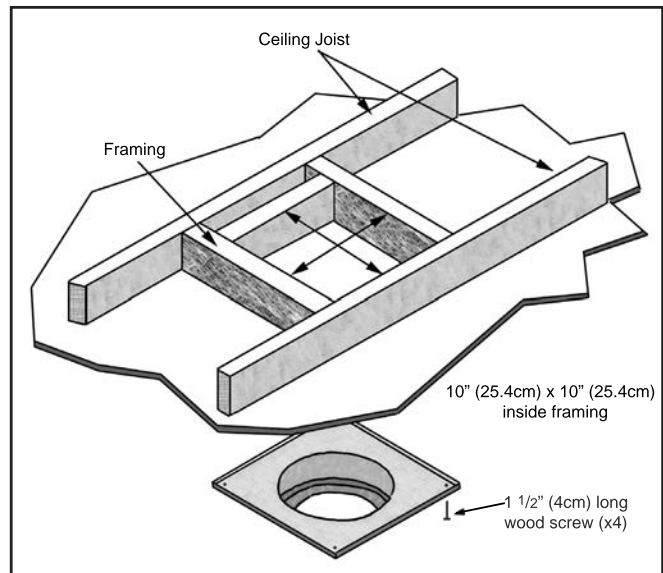
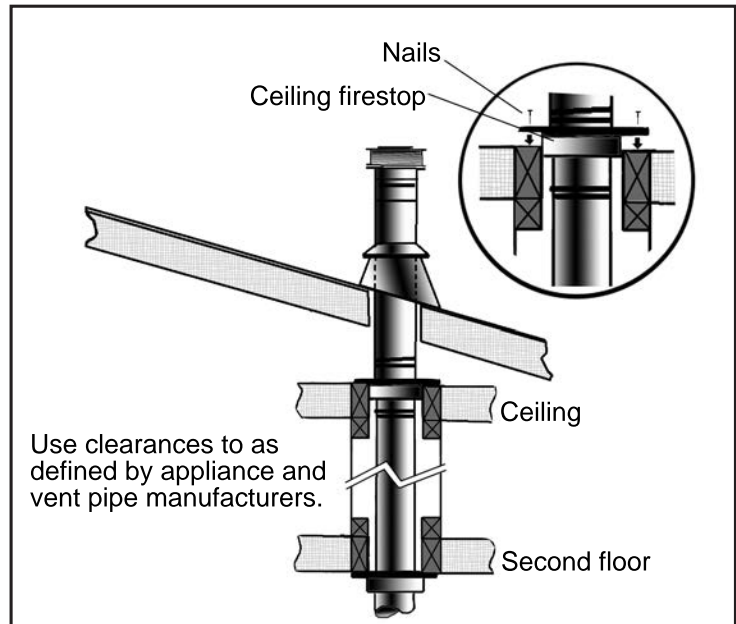

Figure 29: Wall Framing for Hole for Vertical Installation.
Figure 33: Multi-Story Vent Pipe Installation.
3. To install the Round Support Box/Wall Thimble in a flat ceiling, cut a 10" square hole in the ceiling, centered in the hole drilled in Step 2. Frame the hole as shown in Figure 29.
- (c) For multi story installations. A ceiling firestop is required at the second floor, and any subsequent floors (see Figure 33). The opening should be framed to 10" (25.4 cm) x 10" (25.4 cm) inside dimensions, in the same manner as shown in Figure 29.